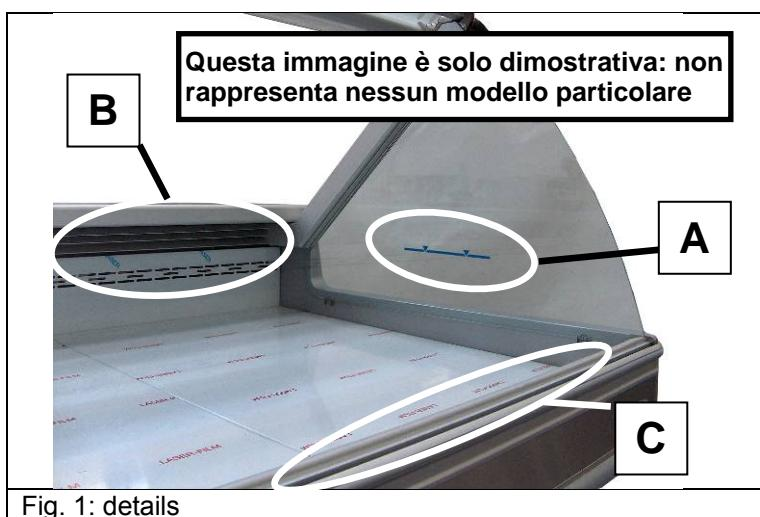

Fig. 1: details
- Never exceed the load limit line “A” affixed on the side glazing (fig. 1)
- Do not block air outlet slots “B” or air return slots “C” (fig. 1)